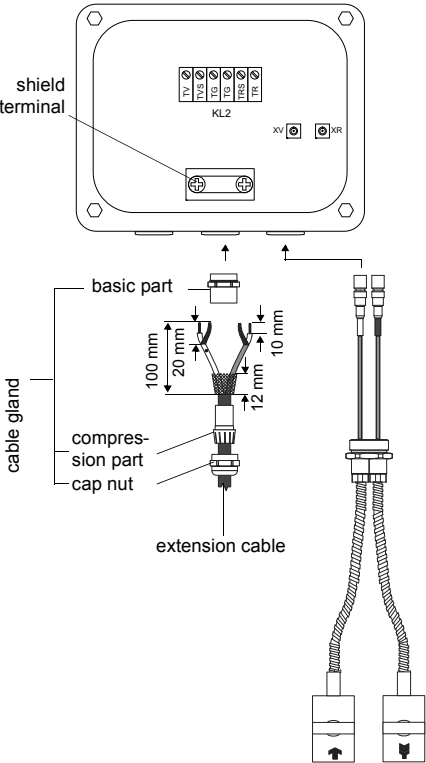
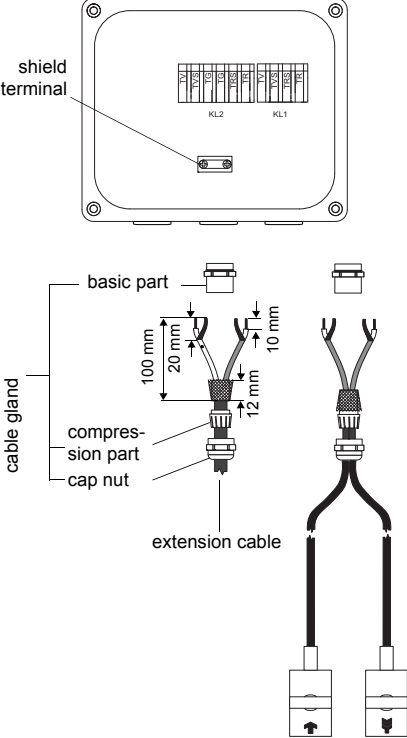

Fig. 5.5: Connection to junction box JB02, JB03
Fig. 5.6: Connection to junction box JBP2, JBP3
- Remove the blind plug from the junction box (see Fig. 5.5 or Fig. 5.6).
- Prepare the extension cable with the cable gland. Cut the external shield and brush it back (see Fig. 5.5 or Fig. 5.6).